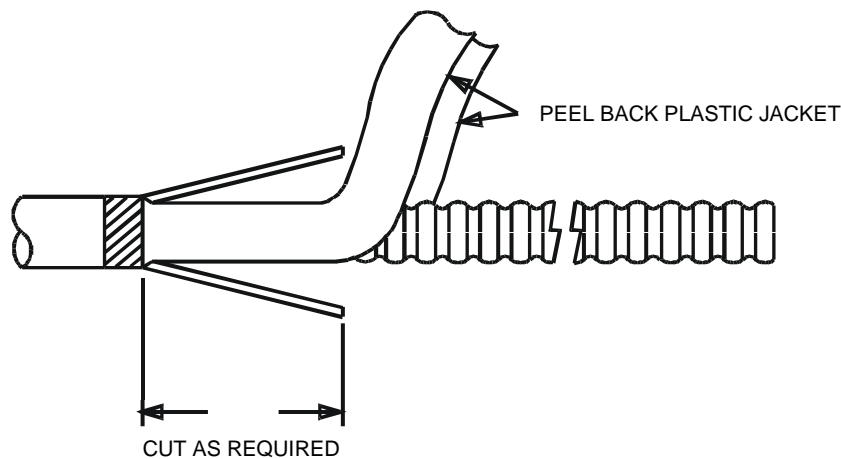

Figure 2 – Remove the outer cable jacket.
6. Use a pair of diagonal pliers to begin separating the outer jacket from the corrugated metal. Peel back and remove both sections of the plastic jacket from the underlying armor (Figure 2). Flex the plastic jacket at the ring cut to separate it from the cable.
7. Consult the closure instructions to determine the length of strength wire that is required to clamp the cable in the closure. Cut both strength members as required and carefully spread them to gain access to the corrugated metal (Figure 2).